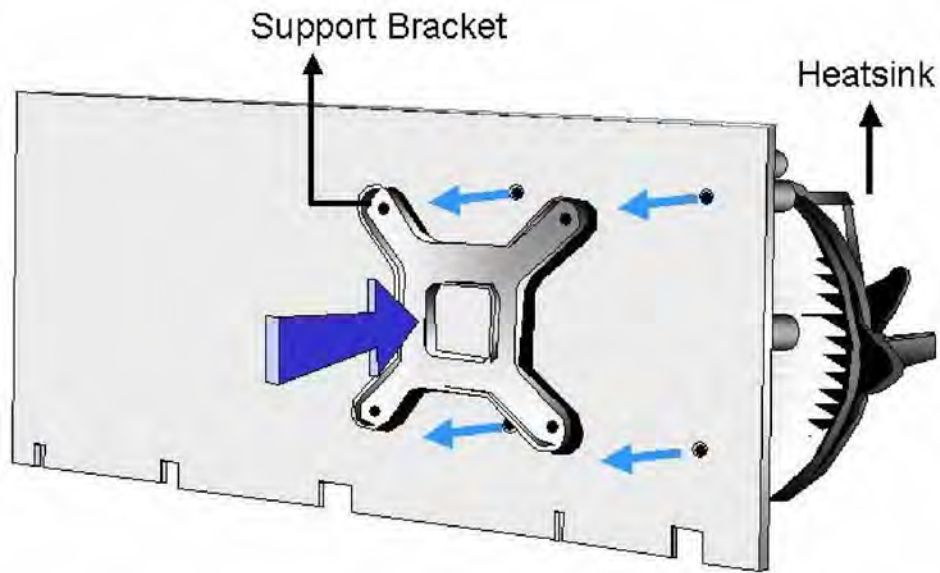

Figure 4-6: Securing the Heat sink to the PCB
- Step 4:** Secure the cooling kit. From the solder side of the PCB, align the support bracket to the screw threads on heat sink that were inserted through the PCB holes. (See **Figure 4-6**)